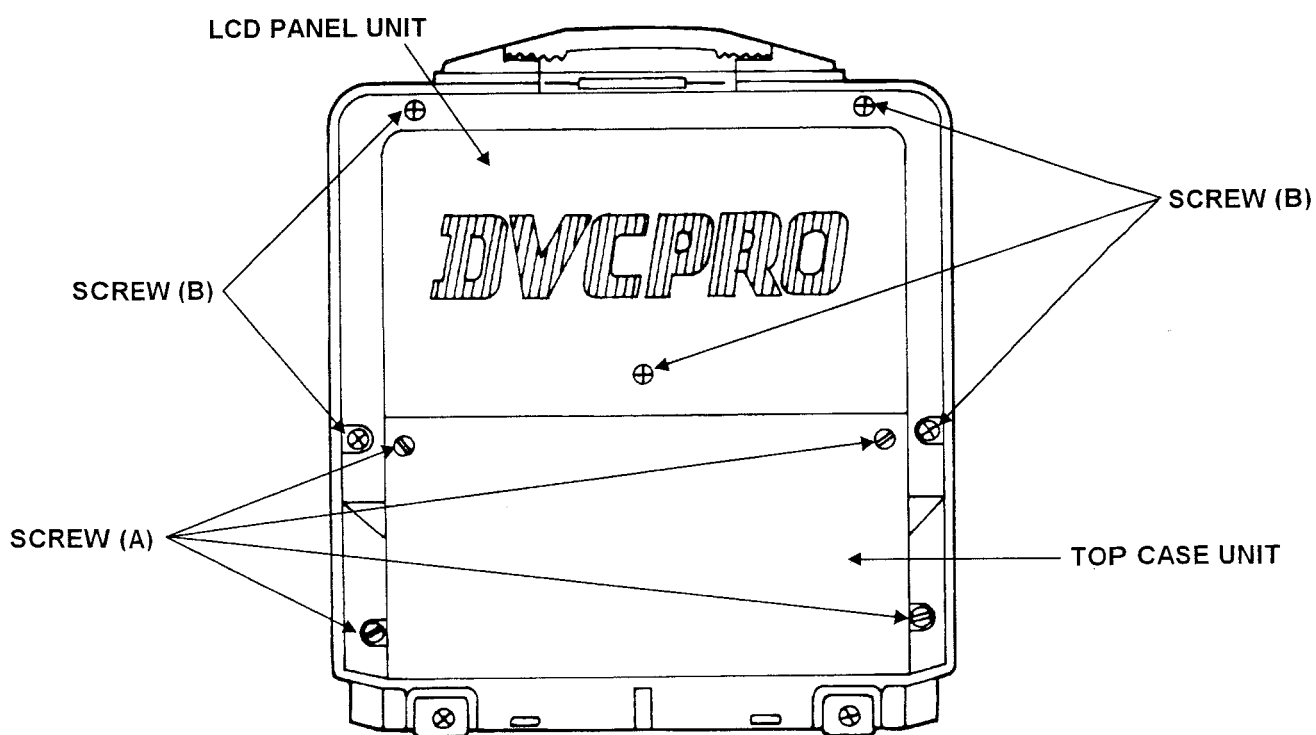

Figure 2
2. Loosen the 4 screws (A) and remove the Top Case Unit as shown in Figure 2.
1. Unscrew the 5 screws (B) and remove the LCD Panel Unit as shown in Figure 2.